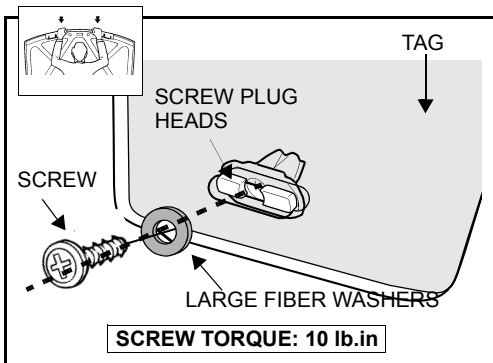

Figure 5.
5. Secure Hood Protector centrally to hood using the two self tapping phillips head screws and the two large fiber washers provided. Align the screw plugs into the slots in tags and apply pressure to the tags during tightening the screws, do this so the screw plug heads do not spin. The correct sequence is, screw plug, Hood Protector, large fiber washers and screw. Do not over tighten. The recommended torque setting for the screw is 10 lbf-in. See figure 5.